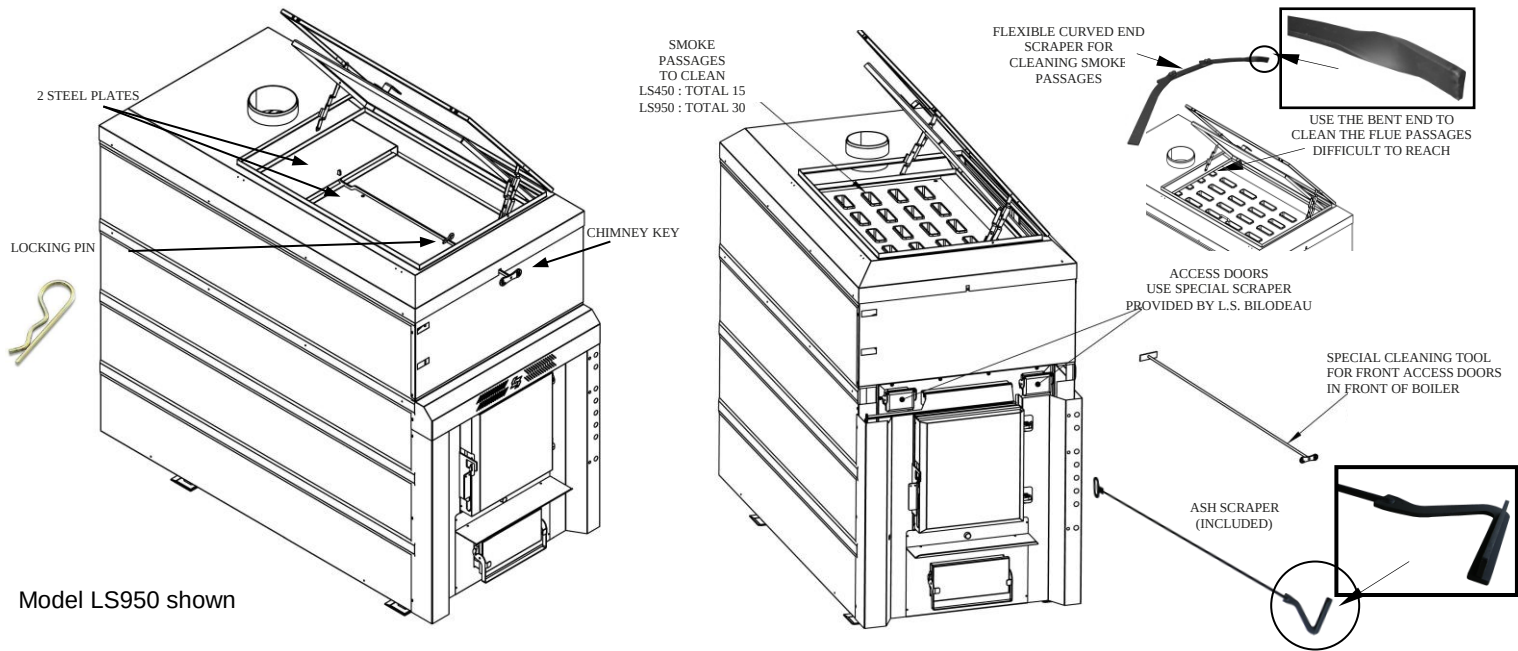

FIGURE 5 (showing the smoke passages to clean above the combustion chamber)
Every week of utilization, one must open the access panel situated on top of the boiler to inspect and clean, if required, the smoke passages situated above the combustion chamber (see Figure 5) and clean the upper section of the combustion chamber within the 2 front access (see Figure 5a). As well, take this opportunity to sweep all the ashes from the combustion chamber into the ashtray. Then empty it into a metal container provided with an hermetically sealed cover, which must then be stored outdoors.
In temperate regions, the *Bilovax LS450* or *LS950* boiler can continue to operate during the cold spells of early to mid-spring. Before shutting down the boiler for the summer, open the two (2) access panels on the top of the boiler. Remove the locking pin; pull the chimney key (tab) to remove the two steel plates. Inspect and clean the smoke passages (15 for the LS450 or 30 for the LS950) above the combustion chamber (see Figure 5), then, remove the front panel to reach the two (2) access doors and complete cleaning with scraper provided (see Figure 5a). Clean the combustion chamber and put the ashes in the ashtray. Empty the ashtray into a metal container with a tight lid which should then be stored outside. Verify that the refractory tiles are in good condition and well secured. If the refractory tiles are damaged, replace them with new tiles. Must also inspect and sweep the flue / chimney connection and chimney during the summer.
Open the loading door and inspect the combustion chamber to make sure that there are no ashes on the bottom. If there are ashes, sweep them into the built-in ashtray with the ash scraper supplied (see Fig. 5). Place crumpled sheets of dry newspaper on the bottom and cover them with kindling and a sufficient quantity of dry logs of up to 61 cm (24") for the LS450 model or up to maximum 1.22 m (48") long for the Bilovax LS950, up to one half of the combustion chamber. Light the newspaper whilst keeping the loading door half-open. Make sure that the fire is well lit before closing the loading door. After an hour or so, slowly and carefully crack open the loading door of the *Bilovax LS450 or LS950* to the first detent without using any force against the safety latch. Pull on the smoke bypass damper lever to evacuate all the smoke and unburned gases from the combustion chamber. *After 30 seconds to a minute*, open the loading door fully, past the second detent, and put a full load of wood on the embers in the *Bilovax LS450 or LS950*. Then firmly close the bypass damper and then the loading door, this should allow for a wood-burning cycle of 8 to 10 hours depending on the type of wood and it's dryness. As much as possible, always use dry wood for a better efficiency and less chance of sooting up the appliance and the chimney. If it is not desirable to prolong the heating cycle beyond 8 to 10 hours, simply let the fire die down by itself in the boiler. If the *Bilovax LS450 or LS950* is equipped with a combustion air blower, the hourly heat output will be increased but the heating cycle will be shortened proportionately so one must be prepared to refill the combustion chamber more frequently (See Section 8).
If necessary, weekly remove all excess ash in the combustion chamber and dispose of ashes in the same manner as specified below. At least **every month of use, one must open the access panels on top of the boiler to inspect and if necessary clean flues above the combustion chamber (see Figure 5). Thereafter, remove the front panel to access two (2) access doors to complete the cleaning with the scraper provided (See Figure 5a).** If there are many ashes in the combustion chamber, be sure to send in the ash drawer. Once the ashtray is full, empty it into a metal container with a tight lid which should then be stored outside.